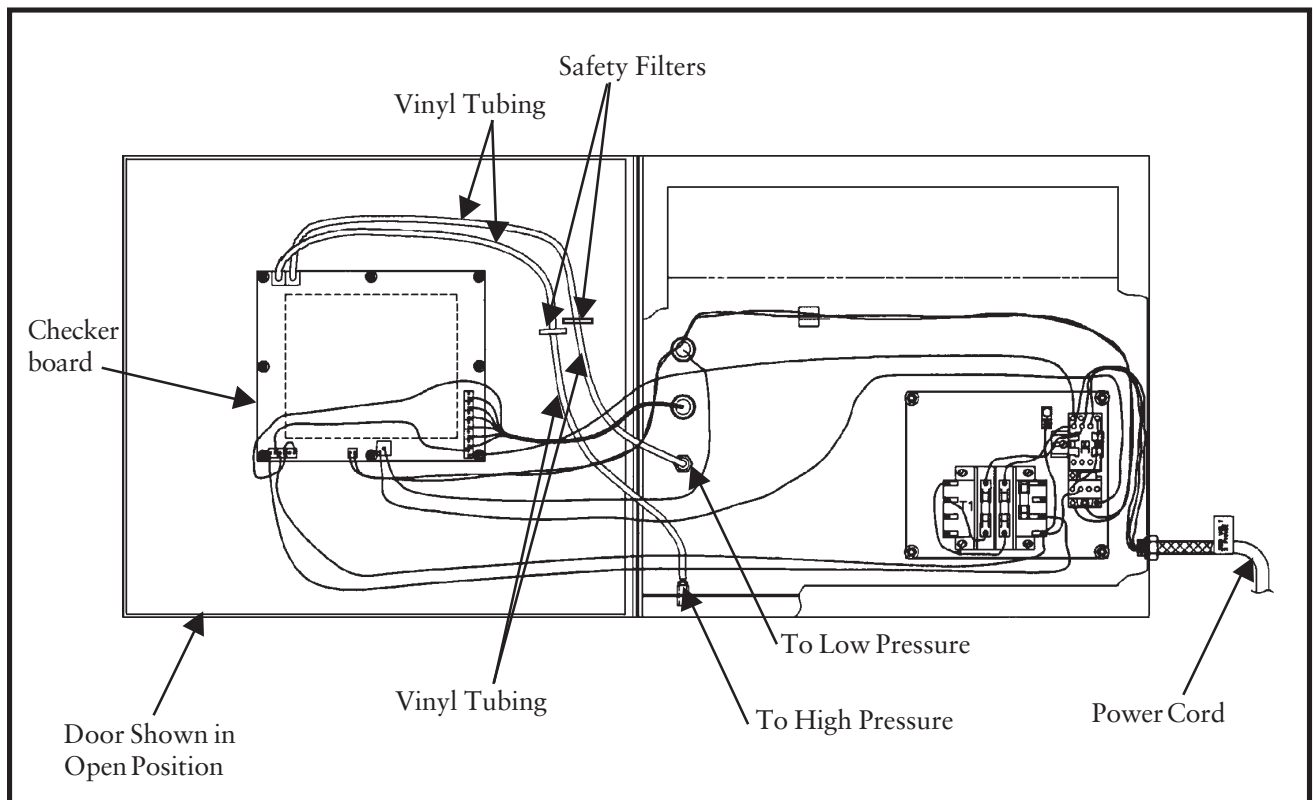

Figure 16
1. Pre-wired with the Checker board on the unit (see Figure 16 Pre-Wired with Checker Board on Unit)